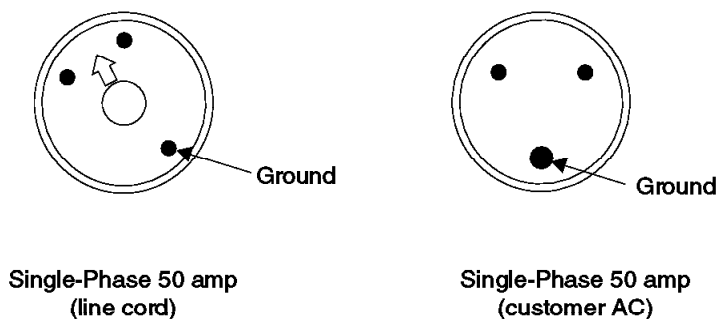
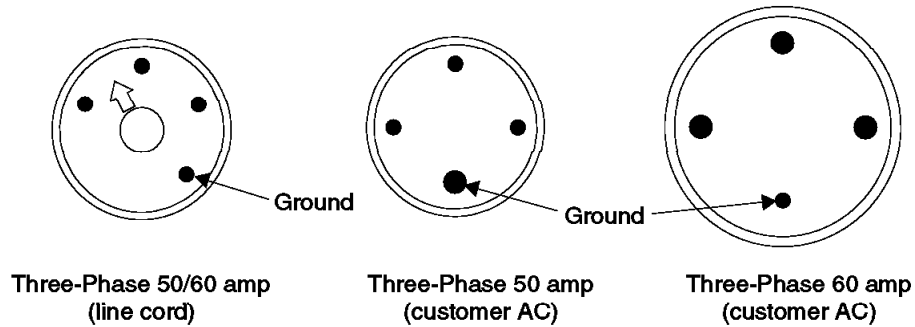

Figure 89. Single Phase Female Connector on the Mainline Power Cable (5007098I)
Figure 90. Three Phase Female Connector on the Mainline Power Cable (t007099l)
- ___ 1. Prepare the multimeter to measure 1.0 V ac or less. For connector information, refer to Figure 89 and Figure 90 on page 109.